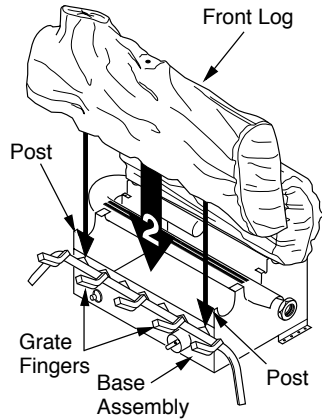

Figure 33 - Installing Front Log
2. Place front log onto grate on front of base assembly. The log will fit down between grate fingers and posts on front of base assembly (see Figure 33). This log may be turned to face either direction.